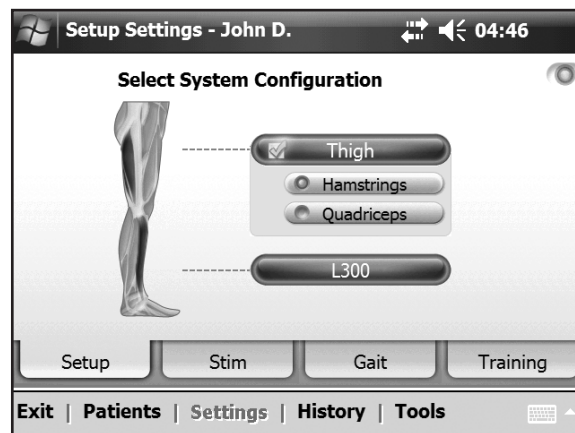

Figure 7-19: Selecting a system configuration.
2. Select **L300 Only**, **L300 and Thigh *Hamstrings***, or **L300 and Thigh *Quadriceps***. See Figure 7-19.